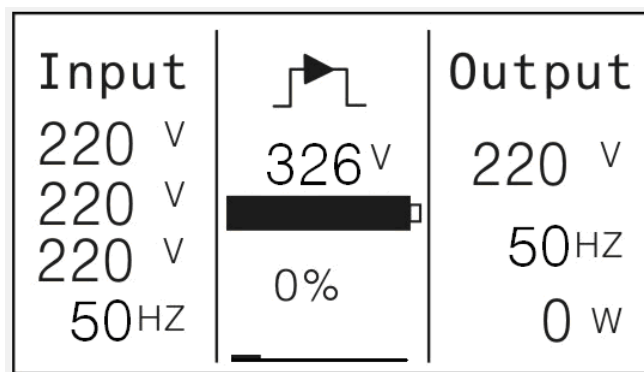

Fig. 4-5
- 1) To turn off the inverter of UPS by pressing the  button continuously for more than 3 seconds and the buzzer will beep for 3s. The UPS will turn into Bypass mode (Fig. 4-5).